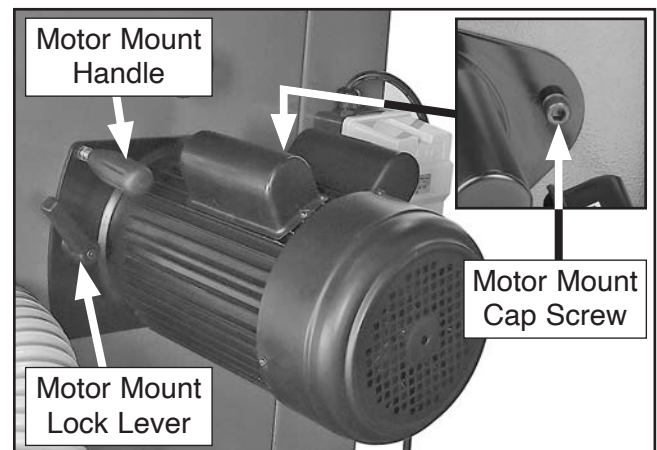

Figure 94. Location of V-belt tension controls.
5. Loosen motor mount cap screw and lock lever (see **Figure 94**).
6. Use motor mount handle (see **Figure 94**) to adjust motor position until V-belt is correctly tensioned.